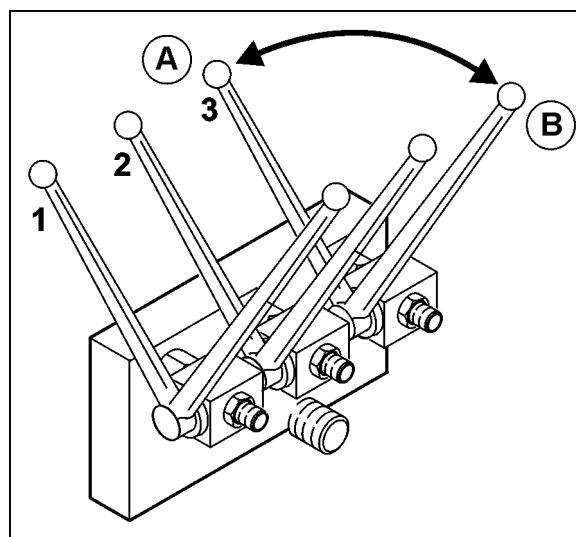

Fig. 42
1. Keep actuating lever for **Limiter M** (Fig. 42/3) closed.
2. Open the two actuating levers for slide gates (Fig. 42/1,2).
1. Keep the two actuating levers for slide gates (Fig. 42) closed.
2. Open the actuating lever (Fig. 42) for **Limiter M**.
4. Close the actuating lever (Fig. 42) for **Limiter M**.
5. Open the two actuating levers for slide gates (Fig. 42).
8. Close the two actuating levers for slide gates (Fig. 42).
9. Open the actuating lever (Fig. 42) for **Limiter M**.
2. Close the actuating lever (Fig. 42/3) for **Limiter M**.